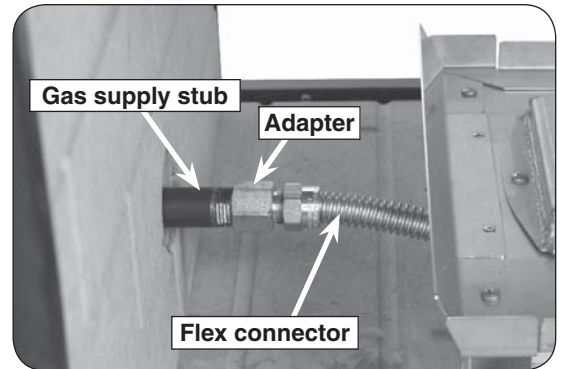

Fig. 9-1 Connect gas supply
2. Locate the gas-supply stub inside the fireplace and remove the cap, if attached (reference Fig. 9-1).
4. **Be sure gas to the fireplace is off.** Remove the adapter that is loosely connected to the flex connector (coming off of the burner system). Attach the adapter to the gas-supply stub using a pipe compound resistant to all gasses. Tighten securely. Then attach the open end of the flex connector to the adapter. Tighten securely (See Fig. 9-1).